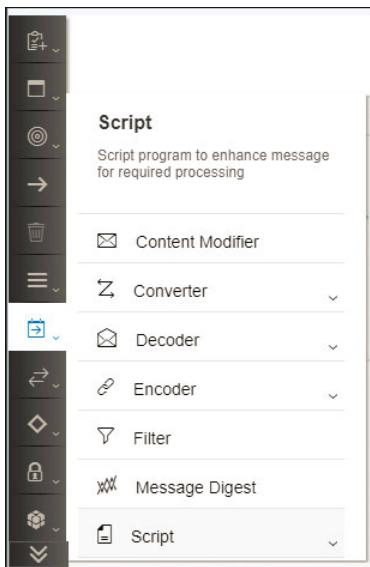

Figure 9.12 Adding the Script Step to the Integration Flow
3. Select a **Script** step  from the palette (see Figure 9.12). You find this shape in the palette under **Message Transformers** .